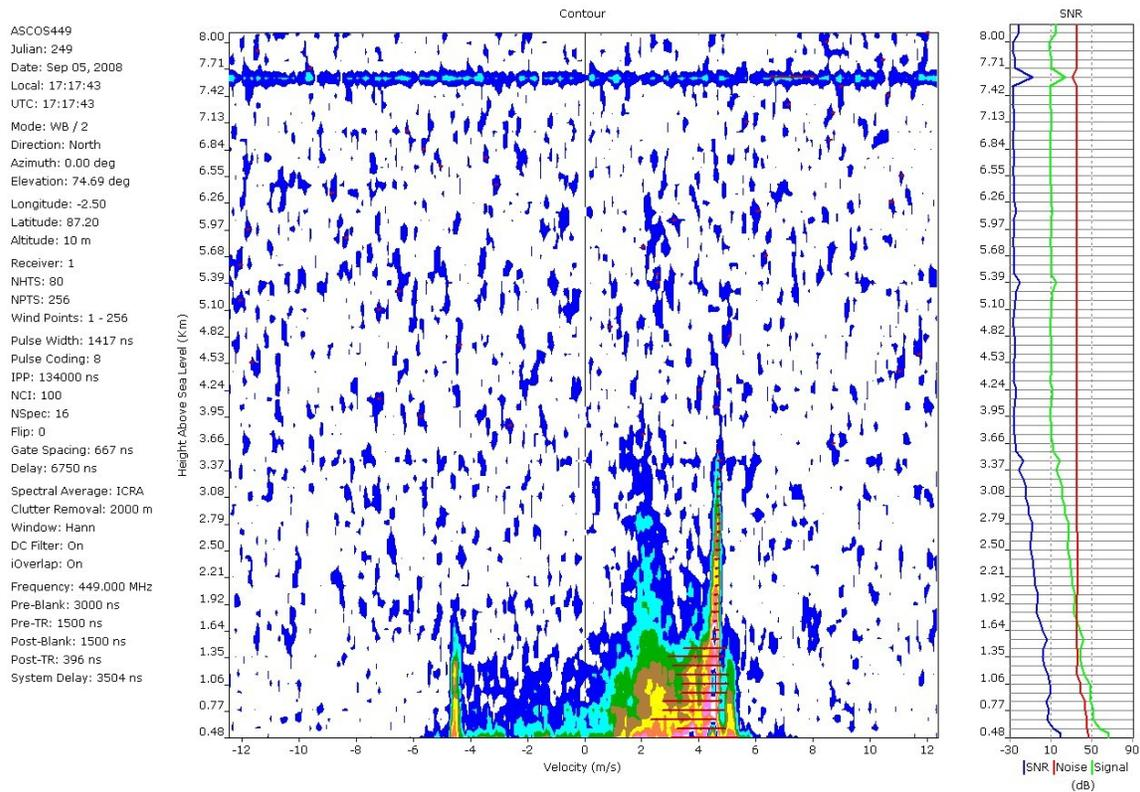
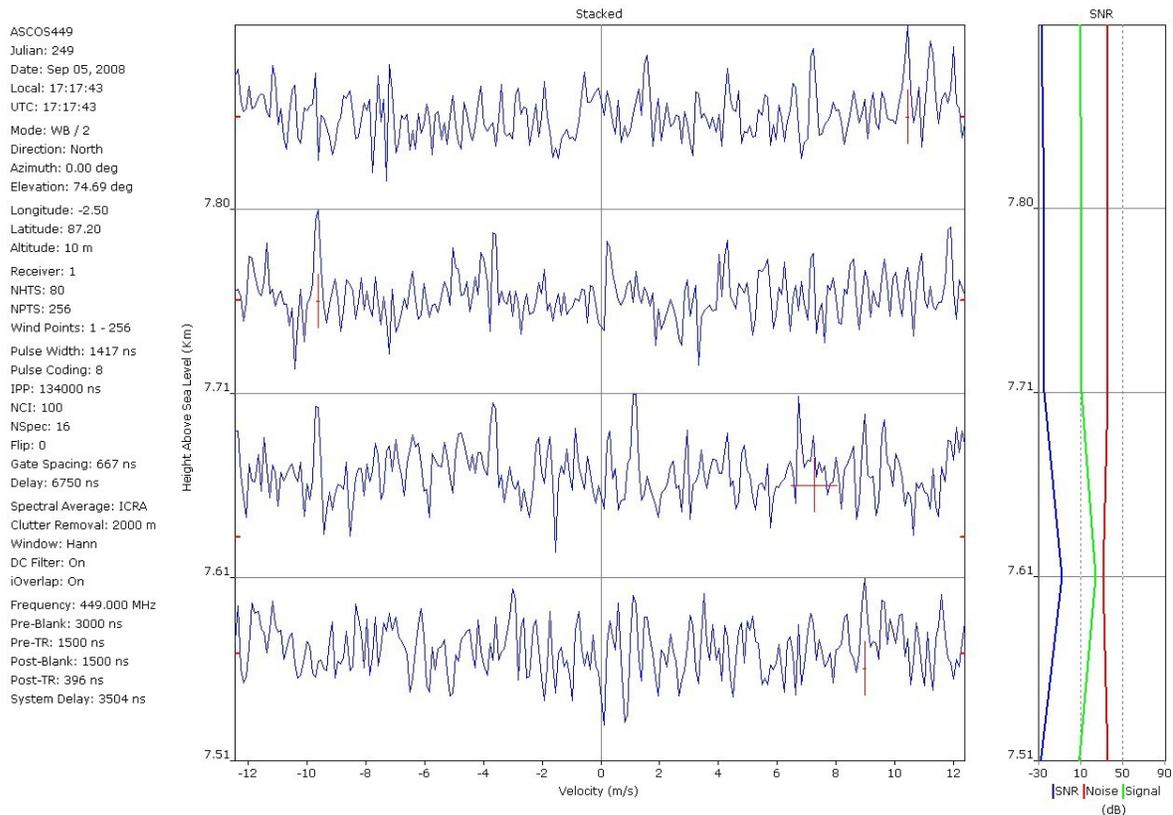

Figure 6. An example of poor noise determination. The stripe near 7.5 km is not a real signal.
Figure 7. Details of the stripe shown in Figure 6. In the spectra of 7.61 km, the noise level has been determined at too low a level.
4. I spent some time looking at the 449 spectra from day 249 17:15:27 mentioned above. It turns out that the next record (17:17:43) has an even more obvious problem with the noise. Looking in detail at both records, I can see that the problem is an error in the noise level determination. This problem should be fixed, since it can lead to incorrect moments calculations, as well as ugly plots. Figures 6 and 7 show the details of this problem. Figure 6 shows how it is typically seen. In Figure 7, the low noise level in the 7.61 km spectral display is evident. This leads to enhanced SNR for this height that is not real. This is a known problem, and will be fixed in the next version of Lapxm.